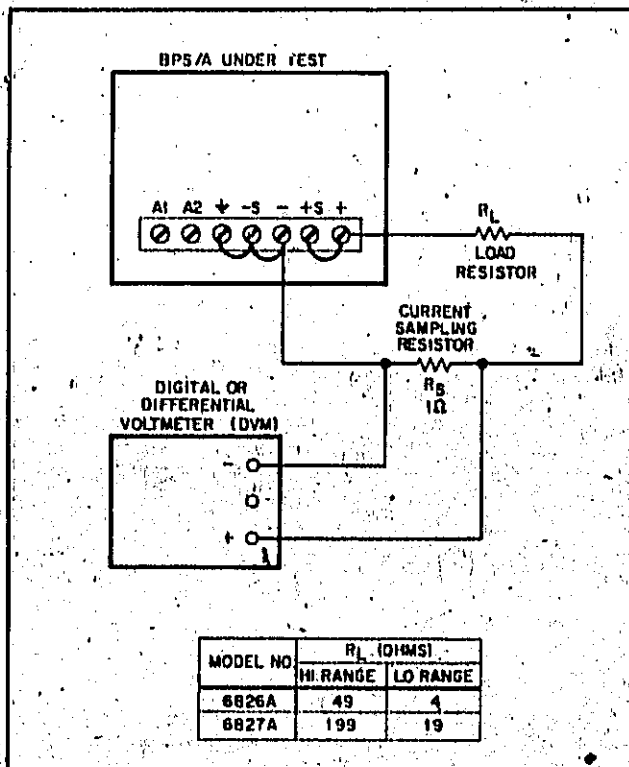

Figure 5-10. Constant Current, Test Setup
- Connect test setup shown in Figure 5-10: Use high range load resistor (R_L) connected in series with the 1Ω resistor (R_S).